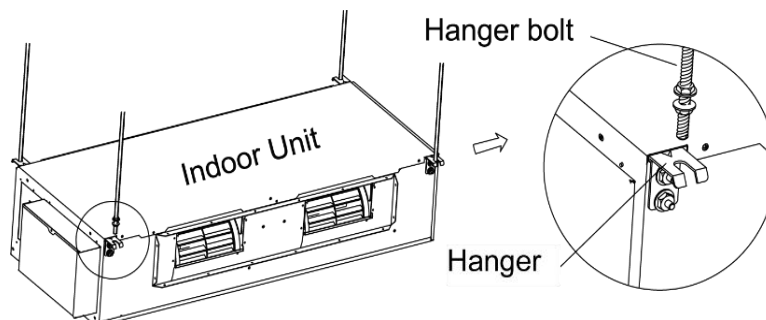

Fig. 7
5. Remove the paper pattern and mount the unit as shown in Fig7.